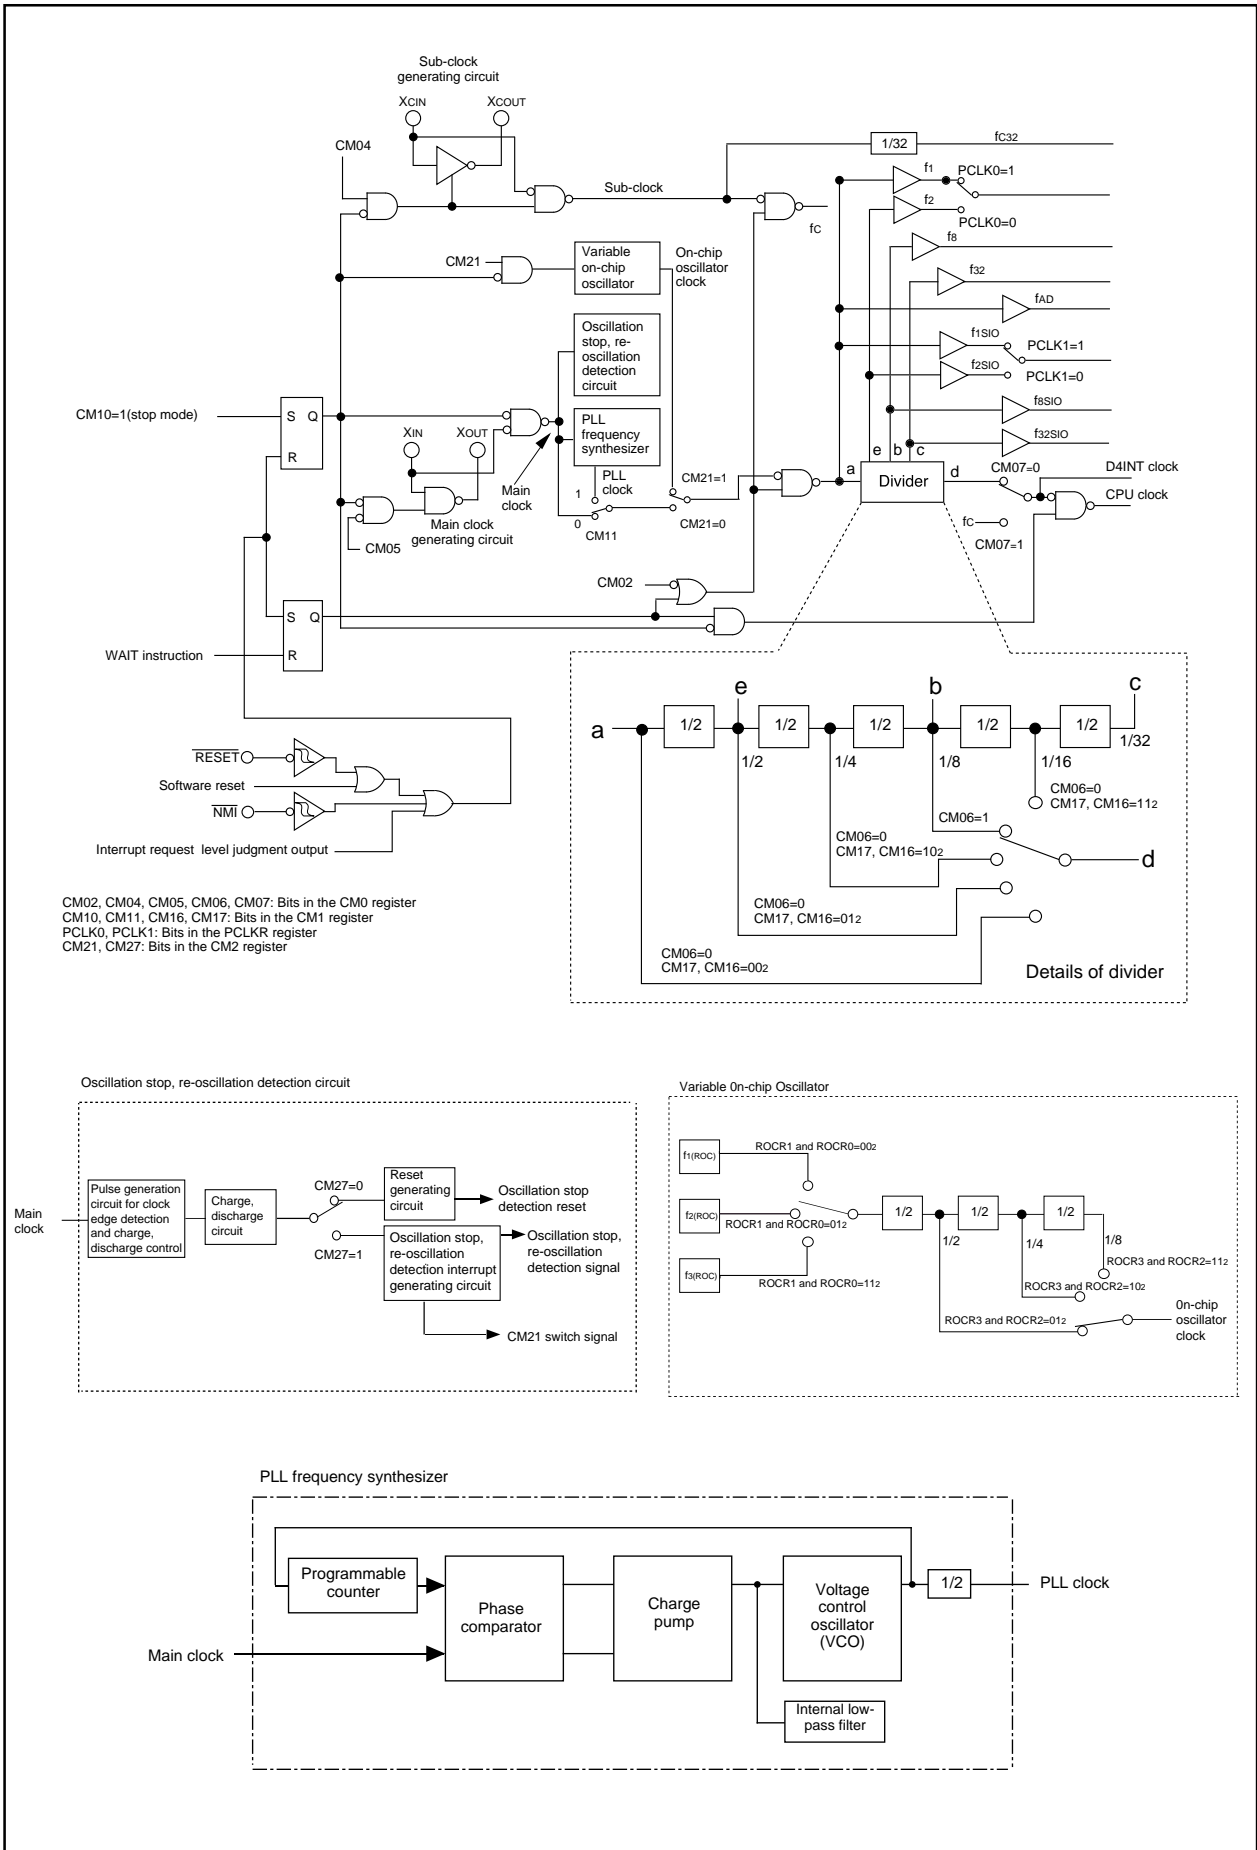
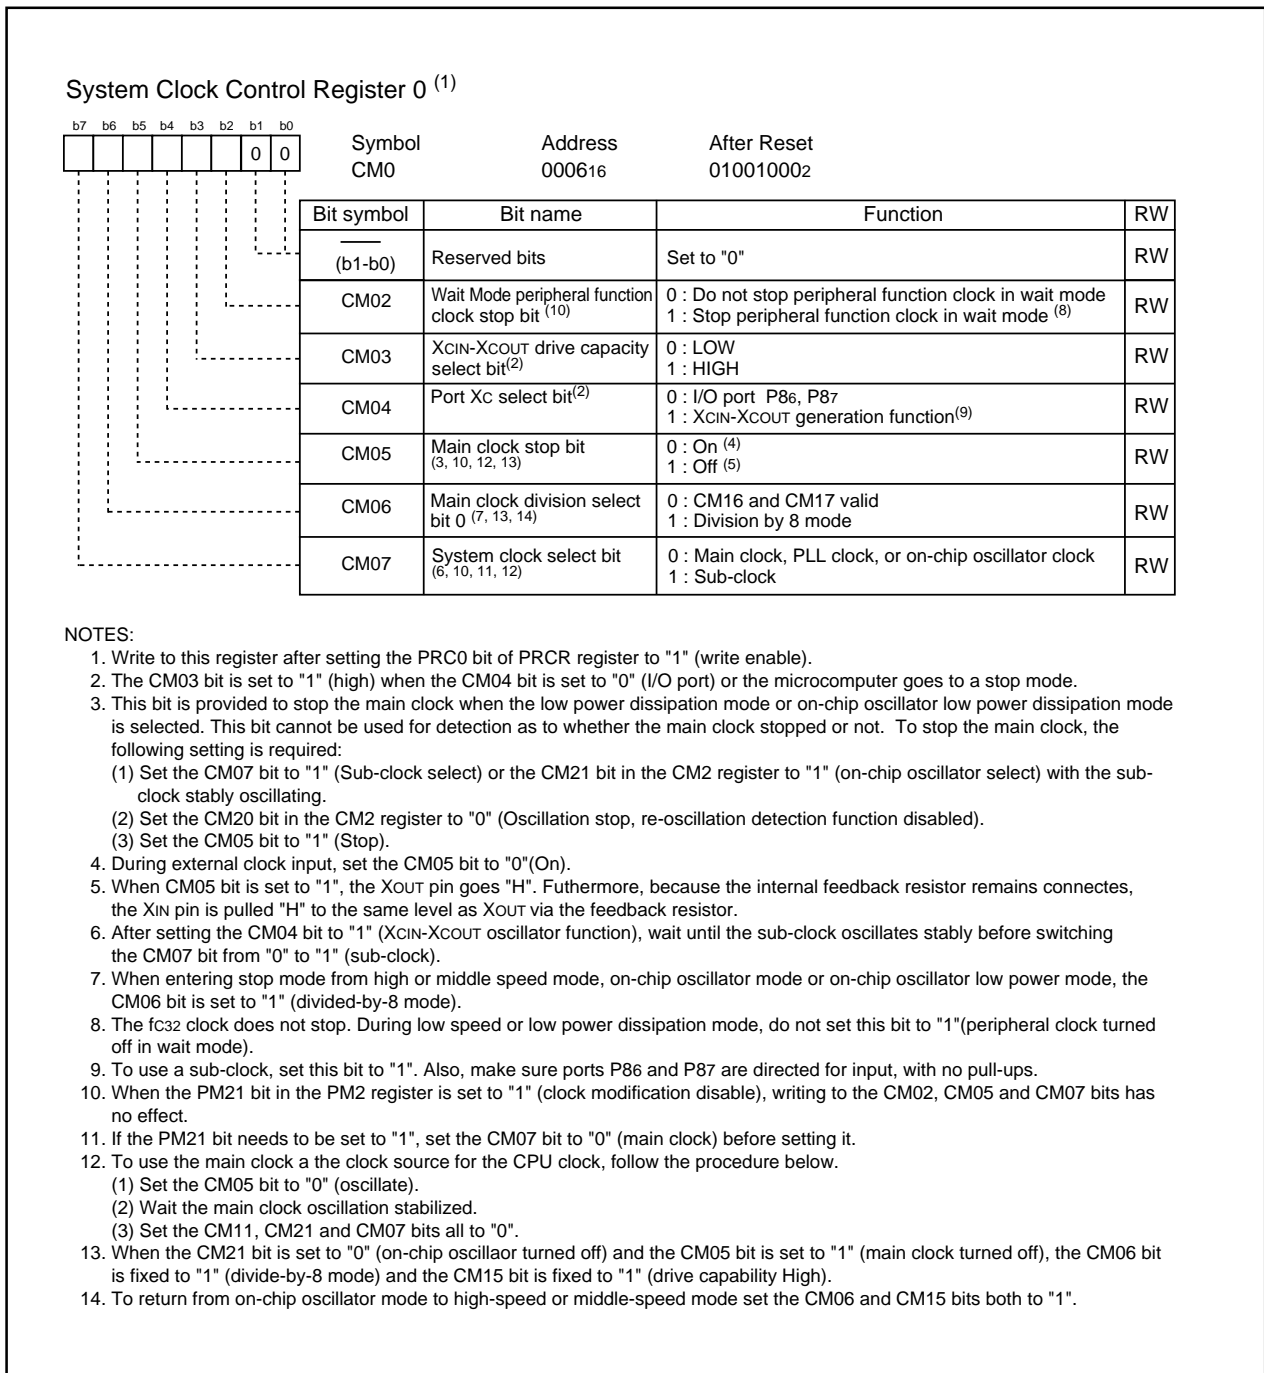

Figure 7.1 Clock Generation Circuit
Figure 7.2 CM0 Register
- (1) Main clock oscillation circuit
- (2) Sub clock oscillation circuit
- (3) Variable on-chip oscillators
- (4) PLL frequency synthesizer
**Table 7.1** lists the clock generation circuit specifications. **Figure 7.1** shows the clock generation circuit. **Figures 7.2 to 7.7** show the clock- associated registers.